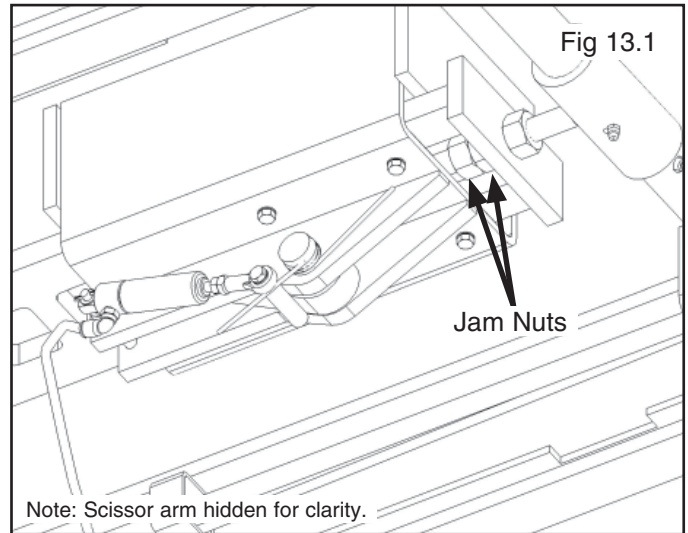

Fig 13.1
3. After determining which safeties are not engaging the Safety Ladder, loosen the jam nuts and adjust the position of the ladder until the safety springs into position. Do this for each disengaged Safety Ladder. (See Fig 13.1)